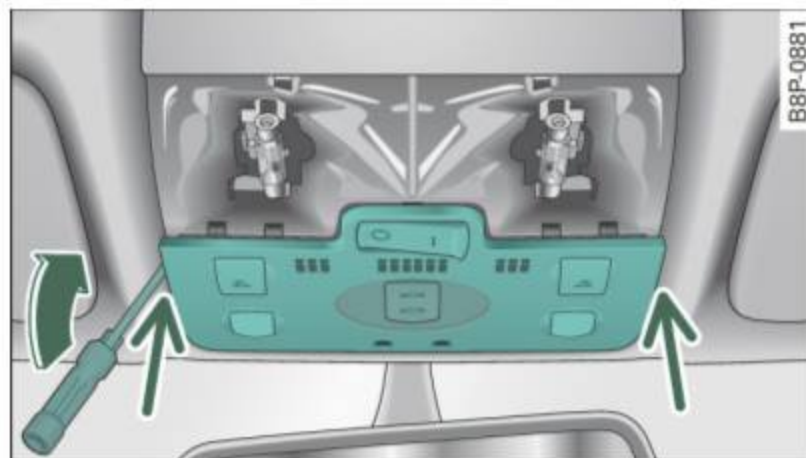

Fig. 44 Light unit in the headliner: removing the switch cover
- Push the flat blade of the screwdriver several times in succession between the light unit and the switch cover at different places on the left and right and carefully lift the switch cover as you do this ⇒ fig. 44. On vehicles with additional equipment you can allow the cover to hang by the wire, otherwise place the loose cover to one side.